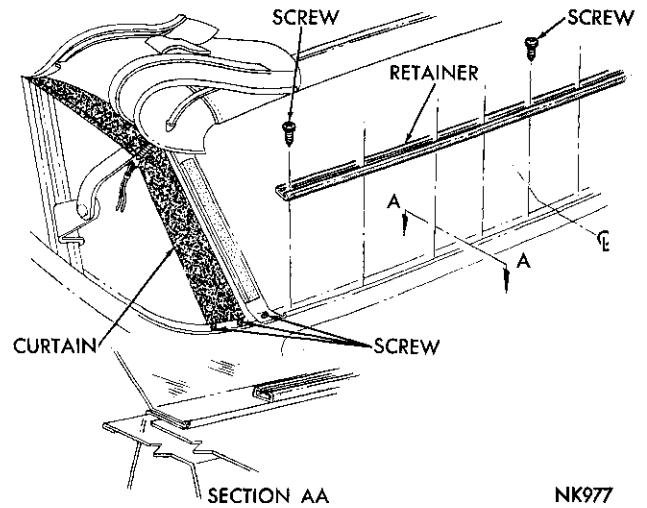
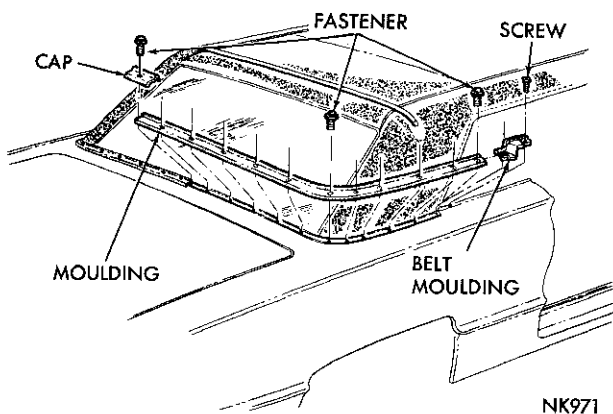

Fig. 167—Rear Curtain Lower End Attachment
Fig. 166—Rear Curtain and Mouldings
(1) Place protective covers over the deck lid, deck lid upper panel, hood and cowl areas.
(2) Apply masking tape directly below the mouldings at the rear quarter panels and rear window.
(3) Remove the mouldings at the quarter panel area and from the bottom of the rear window (Fig. 166).
(4) Mark the location of the moulding retainer screws on the masking tape at the quarter panel areas and the first two screws at each side of the rear window moulding retainer.
(5) Mark the location of the top cover ends at the rear window on the masking tape.
(6) Remove the retainers at the quarter panels and at the corners.
(7) Mark the location of the rear curtain material end and the three end attaching screws (Fig. 167) on the masking tape at the quarter panels and rear window areas.